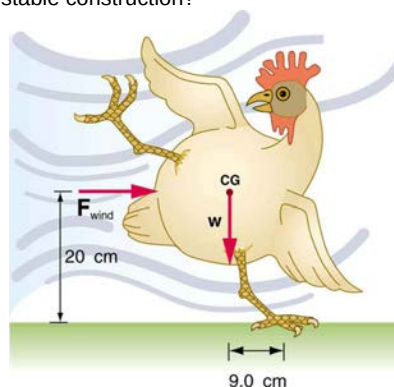

Figure 9.33
11. (a) What force must be exerted by the wind to support a 2.50-kg chicken in the position shown in **Figure 9.33**? (b) What is the ratio of this force to the chicken's weight? (c) Does this support the contention that the chicken has a relatively stable construction?